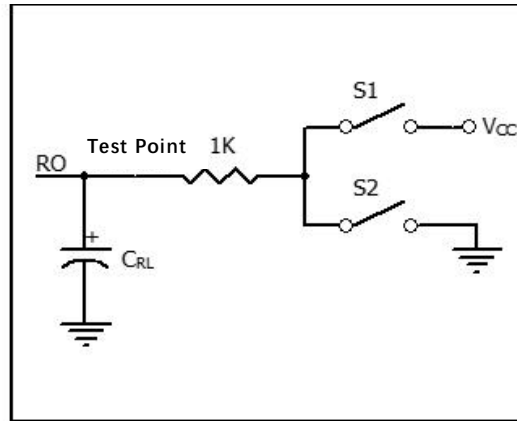

Figure 2 Receiver Enable/Invalid Timing Test Circuit
- (2) Test circuit is shown in Figure 2